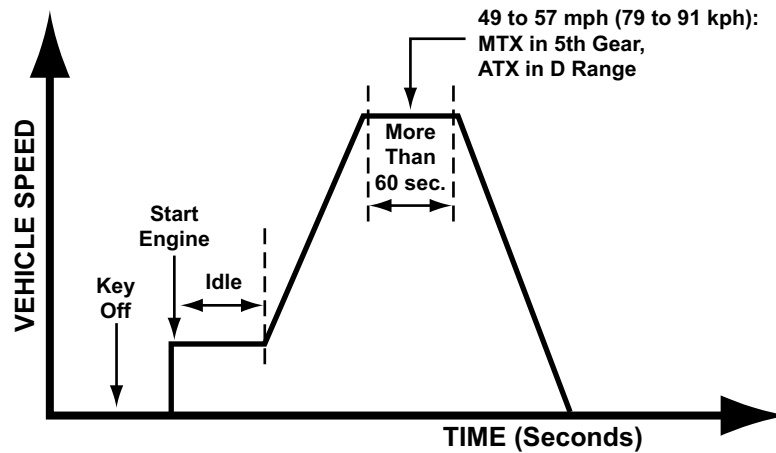

Figure MA000-32
3. Drive the vehicle as shown in Figure MA000-32.